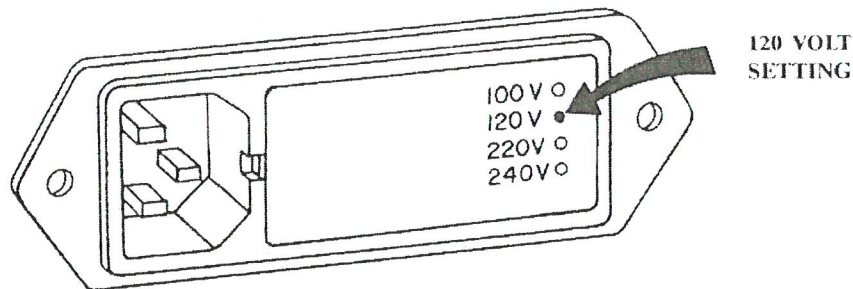

FIGURE 3-3 EXAMPLE 120 VOLT SETTING
3.7.2 The cover of the Power Entry Module shows four possible voltage settings (100V, 120V, 220V or 240V). Notice that a pin will be in one of these holes, indicating the present voltage setting for the 522. If this setting does not match the voltage available at your site, then it must be changed before powering on the 522. Figure 3-3 shows an example setting for 120 Vac operation.